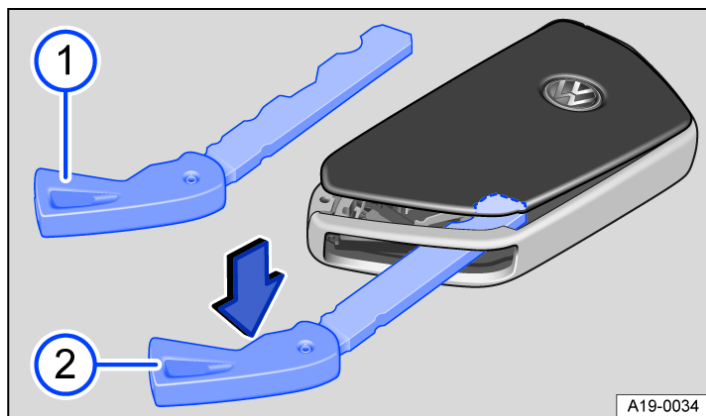

Fig. 1 Vehicle key: opening battery compartment cover.
1. Remove the manual key → Fig. 1 ① (→ Vehicle key).
2. Insert the manual key in the slot → Fig. 1 ②, press in the direction of the arrow and lever off the cover.